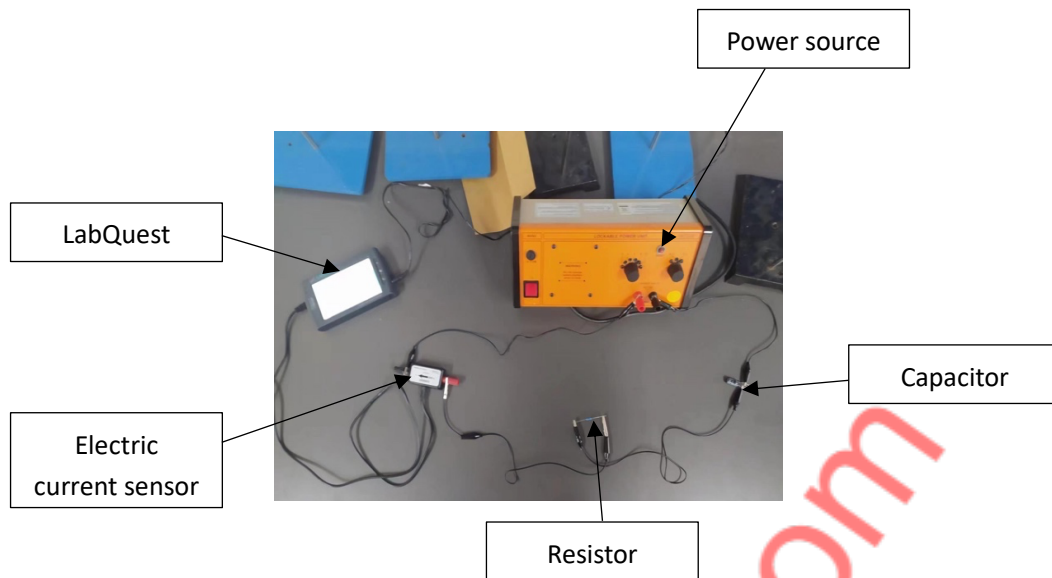

Figure 4. Equipment and setting
1. Build the RC circuit as seen in Figure 4